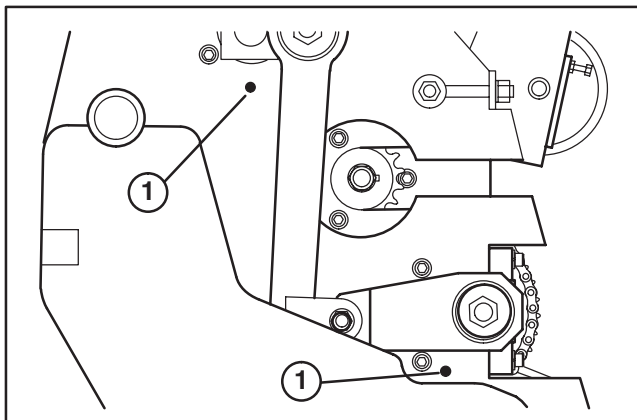

Figure 39
1. Locate the four (4) timing holes, two (2) on each side of coring head and on crank sprockets (Fig. 39).
2. To check the timing you will need the (4) timing rods, included with unit.
3. Rotate the coring assembly by hand, aligning each of the (4) timing holes so that the timing rods can be inserted through coring head and sprocket.